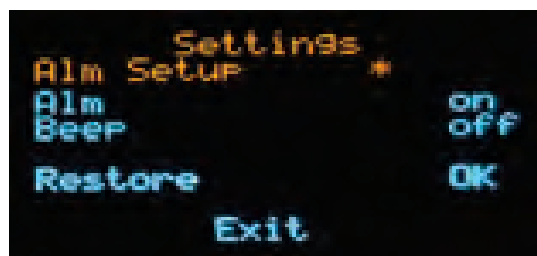

Figure 3.3.2
Hold down the (M) button for one second to bring up alarm menu as per figure 3.3.2. Press (M) quickly to move down the menu.